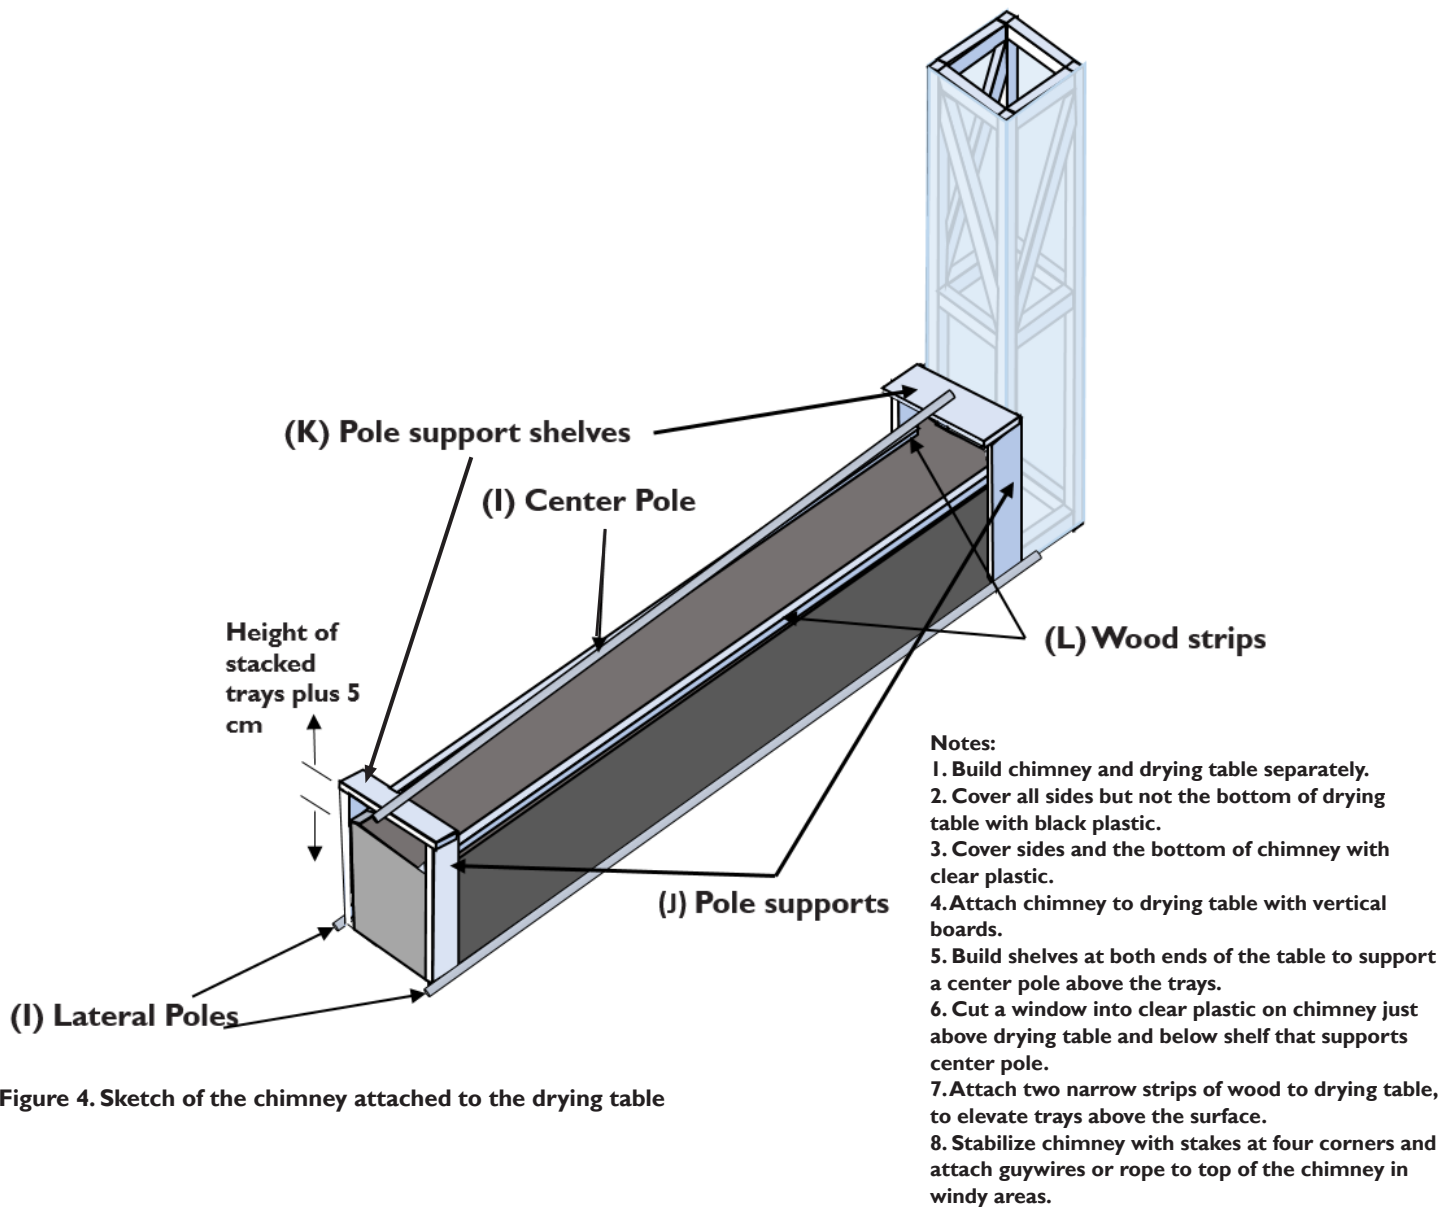

Figure 4. Sketch of the chimney attached to the drying table
- Attach the table to the chimney with two vertical boards (shown in Fig. 4 as J) and screws. Create a shelf above the table by using these two “pole support” wood pieces (shown in Fig. 4 as J) and the two “pole support shelves” (shown in Fig. 4 as K). This should be done on both ends of the table. The height of the space under the shelves should be approximately 5 cm above the top of two stacked trays
- Place a wood pole (shown in Fig. 4 as I) on top of the shelf as support for the clear plastic that will cover the drying table.
- To seal the plastic at the chimney, tuck the clear plastic tightly over the support shelf and two vertical boards (pieces J in Fig 4.) securing the table to the chimney. This prevents air from going around the drying table and not entering the chimney. To seal the plastic to the chimney end of the dryer and along the sides of the table, use any combination of the following: wrapping a bicycle tire inner tube around the shelf area; using bricks; scrap wood; tape or Velcro.
- **Challenges sourcing a 4m long pole to support the plastic table cover:** One or two ropes secured at the pole support shelves (see parts labeled K in Figure 4) at each end of the table and pulled taut is an alternative means to provide sufficient support for the plastic covering the drying table.